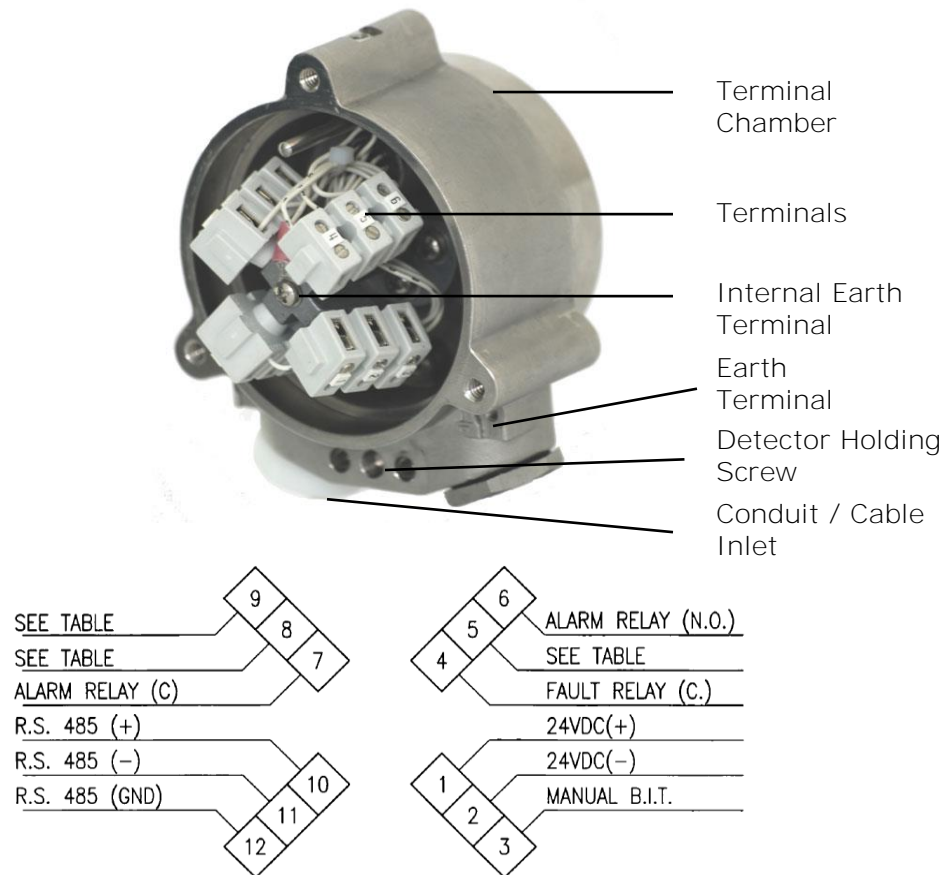

Figure 8: Detector with Cover Removed
This section describes how to connect the electric cabling to the detector (Figure 8).
- 5 Connect the wires to the required terminals on the Terminal Board according to the wiring diagram (Figure 8) and Table 15.
- 8 Check the wires for secure mechanical connection and press them neatly against the terminal to prevent them from interfering while closing the back cover (Figure 8).